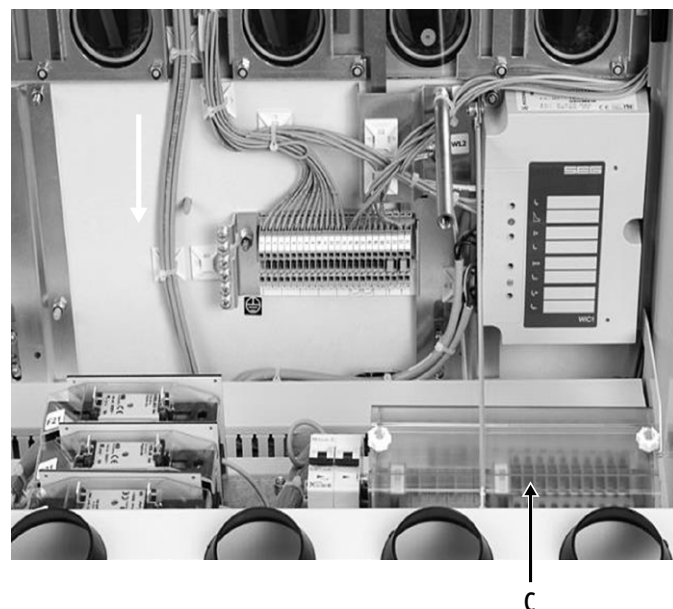

Figure 3-14: Terminals for equipment
Wiring for external metering equipment can be connected through the holes in both side posts (B). The rectangular metal cover plates (B) must be removed to get access. The terminals are located on the right side of secondary compartment (C). See figure 3-14.